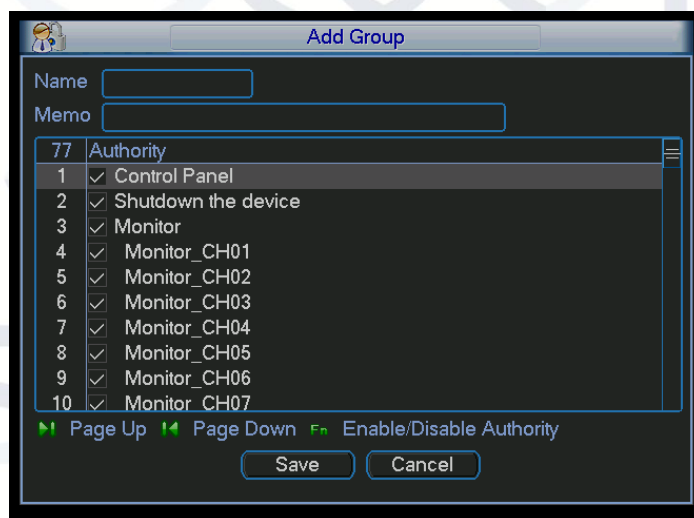

Figure 5-90
- Click add group button, the interface is shown below (see Figure 5-90).
- The modify group interface is similar to the Figure 5-90.